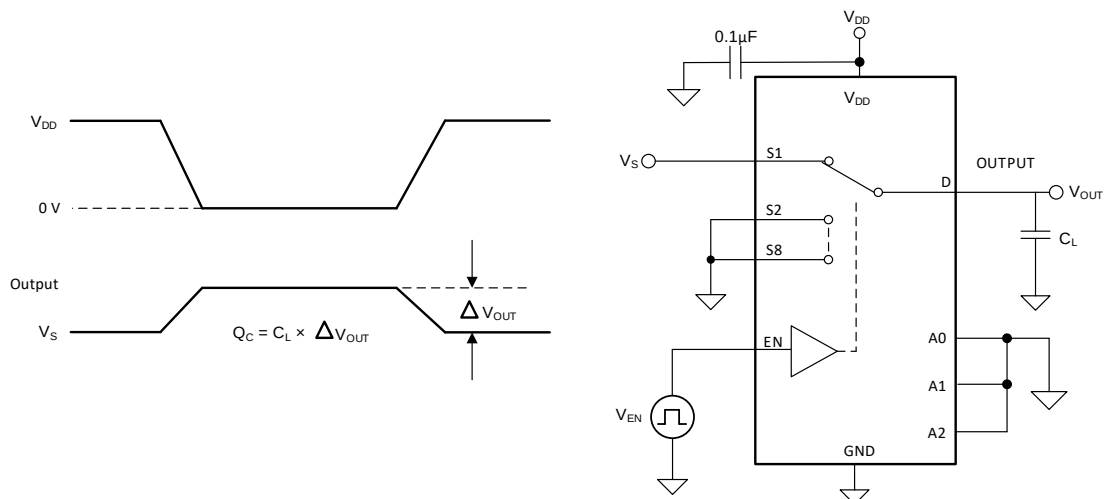

Figure 13. Charge-Injection Measurement Setup
The TMUX1208 and TMUX1209 have a transmission-gate topology. Any mismatch in capacitance between the NMOS and PMOS transistors results in a charge injected into the drain or source during the falling or rising edge of the gate signal. The amount of charge injected into the source or drain of the device is known as charge injection, and is denoted by the symbol Q_C . Figure 13 shows the setup used to measure charge injection from source (Sx) to drain (D).